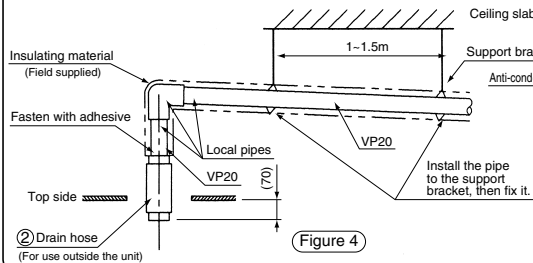
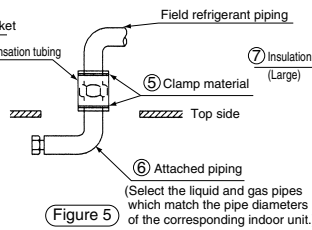

Figure 4
Figure 5
- (2) Perform the refrigerant and drain piping work following the installation manual attached to the indoor unit. Field drain piping should be as short as possible and with a downward slope (1/25 – 1/100) to prevent air pockets. (Figure 4) Be sure to insulate all drainpipes which run above the ceiling. Be sure to fix the field drain pipe to the support brackets in the ceiling. (Figure 4)
- (3) Connect the attached piping ⑥ and the field refrigerant piping. For the attached pipes ⑥, select the liquid and gas pipes which match the pipe diameters of the corresponding indoor unit. When connecting the flare nuts, refer to the installation manual attached to the indoor unit.
- (4) Wrap the insulation pipe cover attached to the indoor unit and fasten with the clamp material ⑤. (For both gas and liquid pipes.) (Figure 5)
- (5) Be sure to use adhesive when connecting the attached drain hose ② and the field drain piping in the ceiling. (Figure 4)